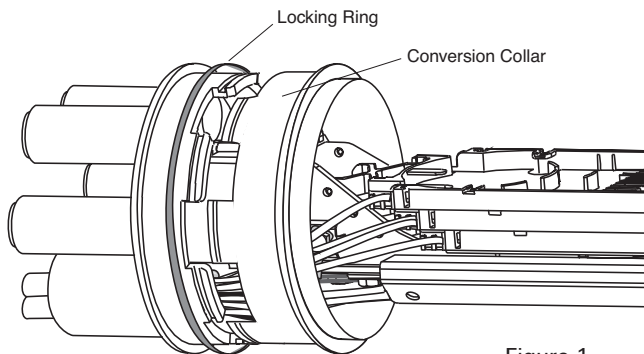

Figure 1
5. Slide collar on over splice trays and insert supplied locking ring to hold it in place. (Figure 1)